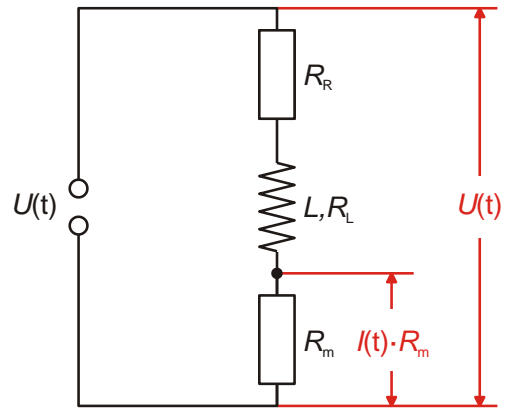
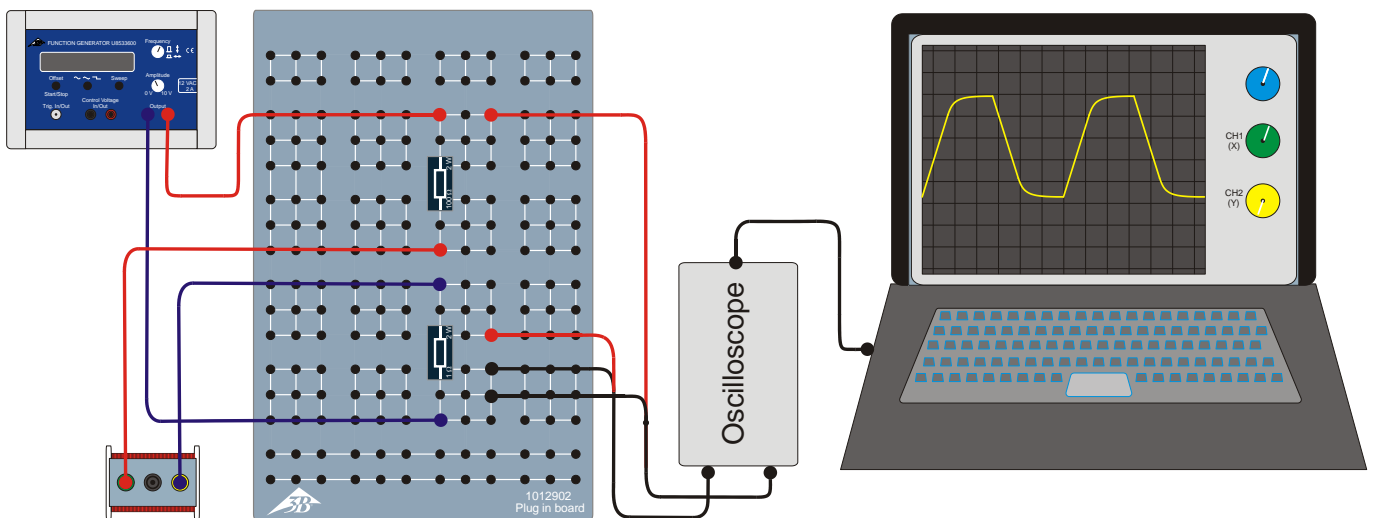

Fig. 3: Sketch of circuit
Fig. 2: Sketch of experiment set-up
- Set-up the apparatus as shown in Fig. 2.
- Assemble the circuit shown in Fig. 3 on the plug-in board.
- Plug one of the 23 mH coils with 1200 windings and the measurement resistor $R_m = 1 \Omega$ into the plug-in board as shown in Fig. 2 and Fig. 3. Initially plug in a jumper in place of one test resistor R_R .